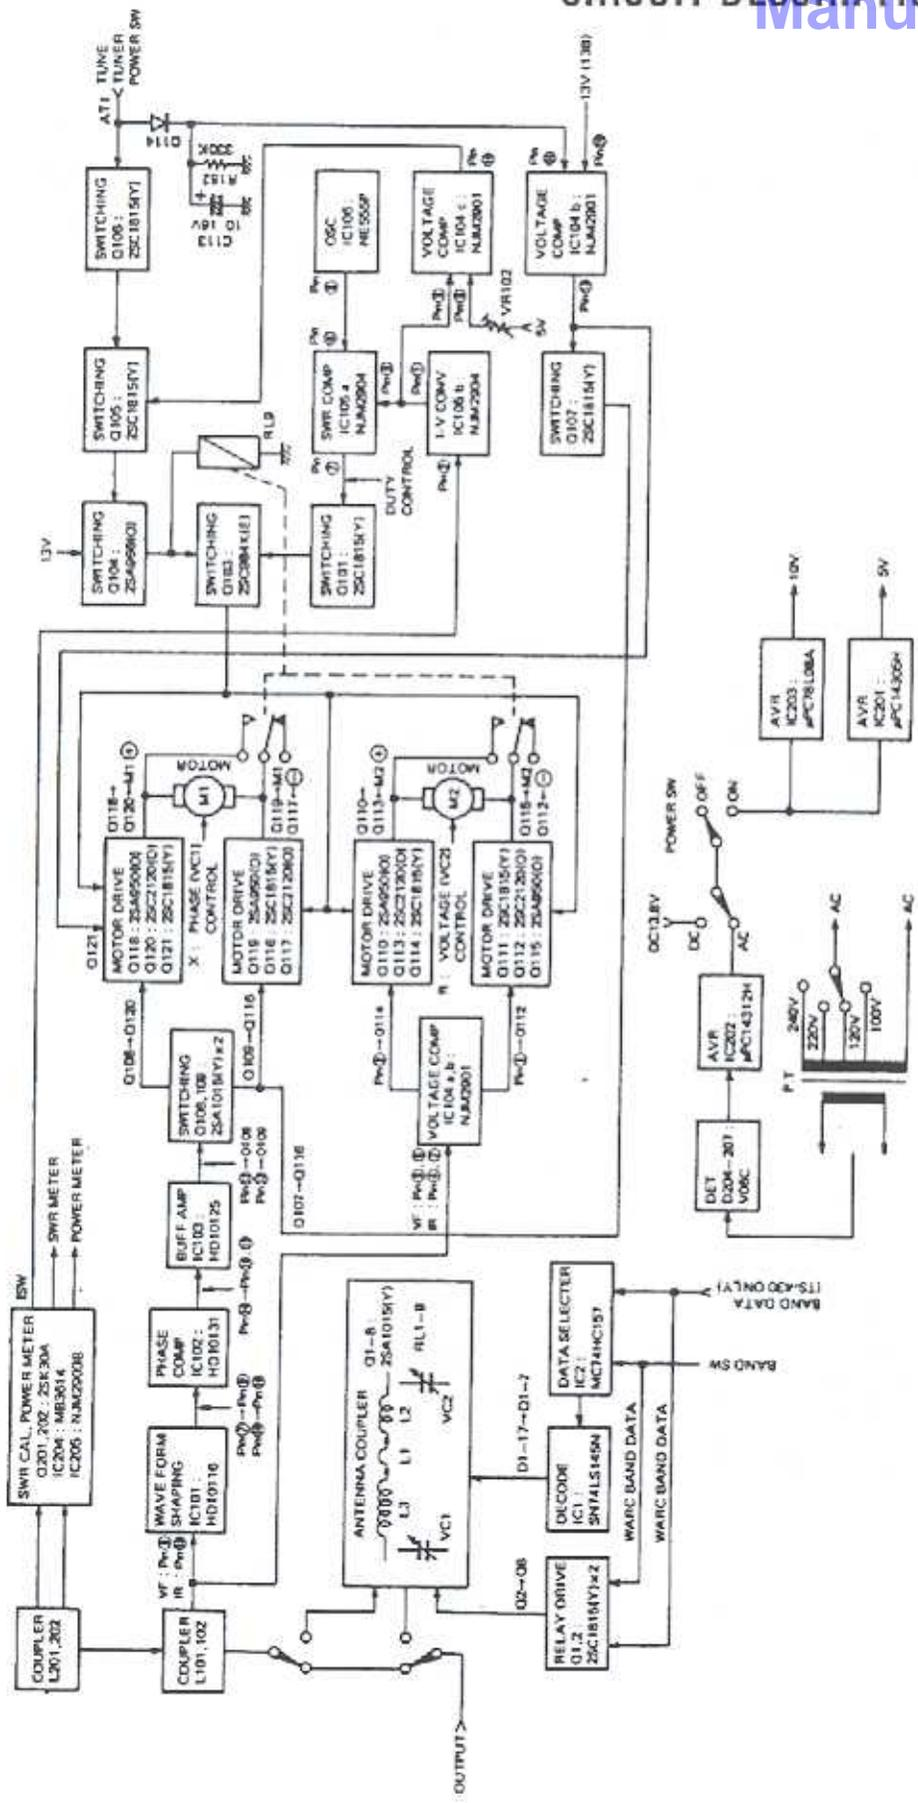

Fig. 1 Block diagram
A block diagram of the AT-250 is shown in Fig. 1. The AT-250 covers all HAM bands from 1.8MHz to 29MHz. When the TUNER and TUNE switches are turned ON and the companion TS-430 transceiver is placed in the transmit mode, both forward and reflected power are detected by directional coupler L201 and L202, which appears between the Control unit (B) (X53-1360-00) IN and OUT terminals. Forward and reflected power is also detected by directional coupler L101 and L102, located between the Control unit (A) ANI and ANT terminals. The former coupler is used to drive the SWR meter and the RF power meter (20W and 200W). The directional couplers are toroidal core transformers; these provide superior characteristics within the 1.8 to 30MHz HF range.